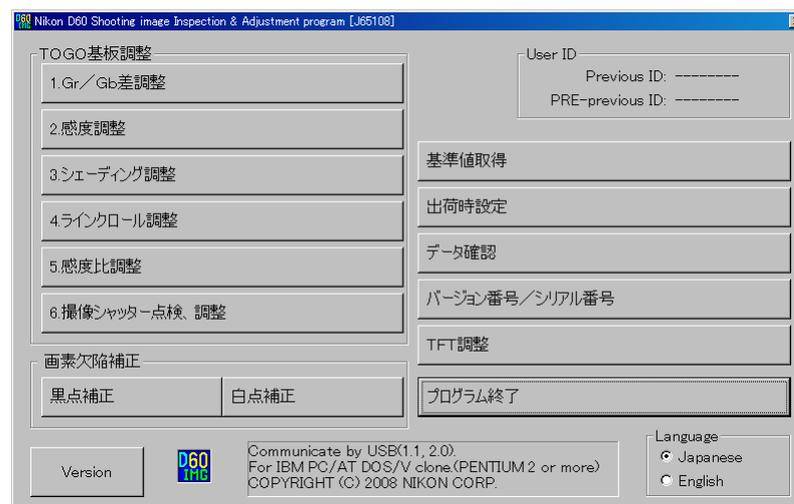

Fig.2
2. Select ENGLISH / JAPANESE in Language to display any menu. (ref. Fig.2)
- ※ When the adjustments from (1) to (7) are made, calculate to get the reference values of sensitivity and sensitivity ratio by using the reference body beforehand, then perform the adjustments.